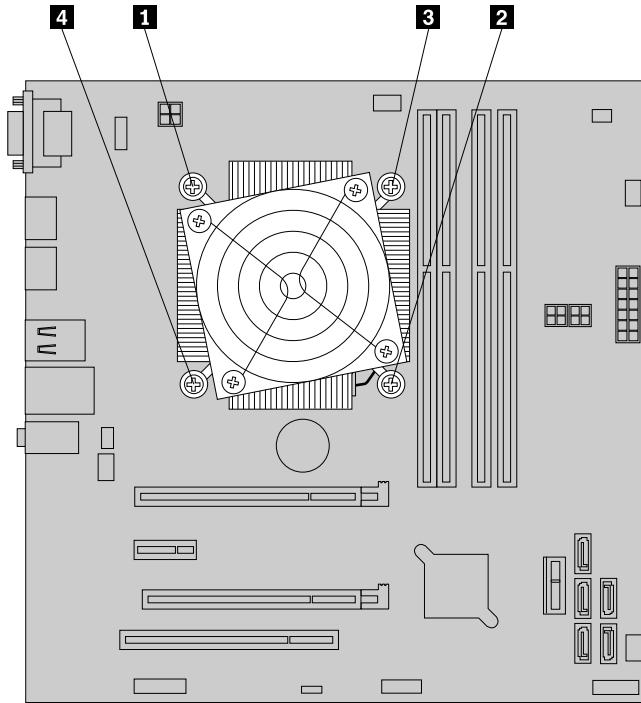

Figure 55. Removing the heat sink and fan assembly
9. Follow this sequence to install the four screws to secure the new heat sink and fan assembly. See Figure 55 "Removing the heat sink and fan assembly" on page 73.